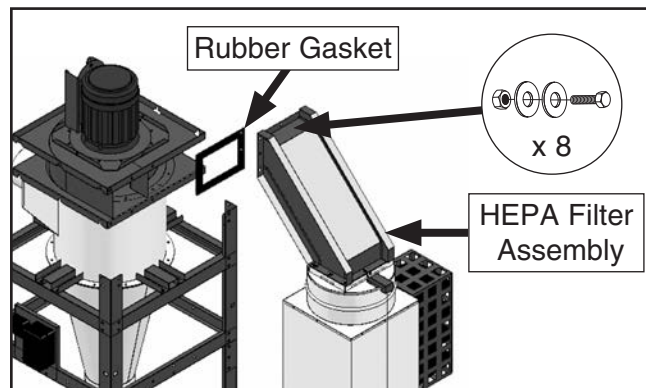

Figure 17. Attaching HEPA filter assembly to blower housing.
20. Attach rubber gasket to blower housing (see **Figure 17**), then secure HEPA filter assembly using (8) $\frac{3}{8}$ "-16 x 1" hex bolts, (16) $\frac{3}{8}$ " flat washers, and (8) $\frac{3}{8}$ " hex nuts.